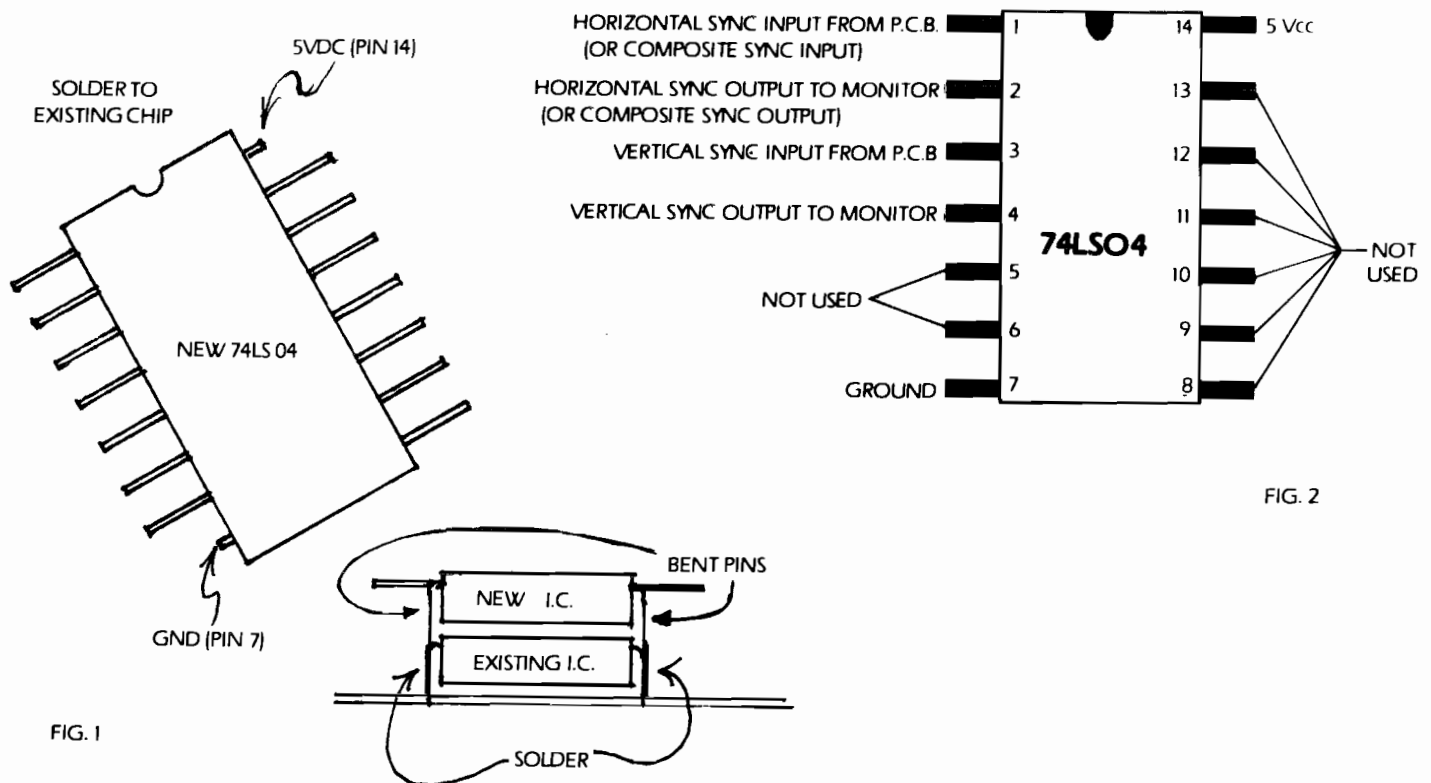

FIG. 2
**CURE 1:** Install a simple one I.C. Circuit on your logic board. This I.C. may be "piggy backed" on to another 7404 series chip for power by bending up all but the two power pins so that they are parallel to the top surface of the new I.C. and then connecting the power pins only to the existing chip. (See Fig. 1) Next connect the sync wires as shown in Fig. 2. (Note: Figure 2 shows a hookup for either **composite** or **separate** syncs.)